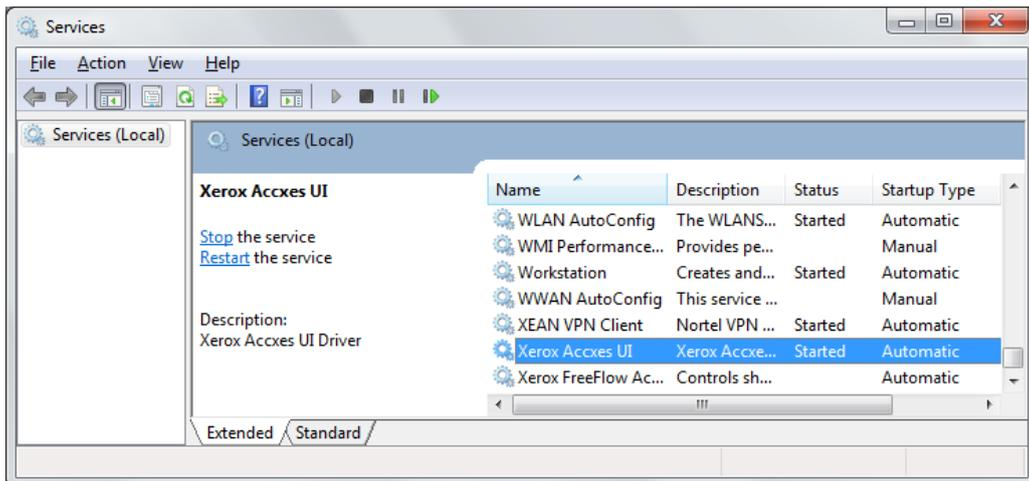

Fig 3-22
4. Click search or press enter on your keyboard to open Services (Fig 3-22).